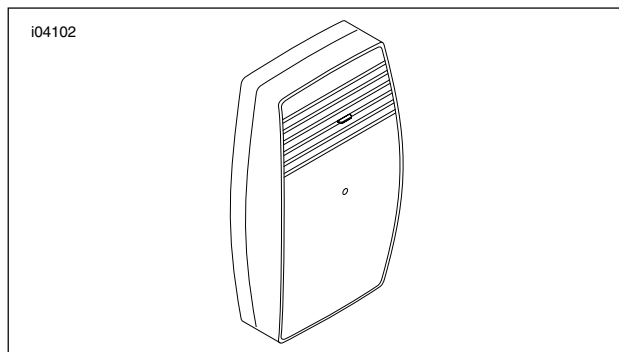

Figure 8-5. Garage Door Opener Receiver, Front View
15. See Figure 8-5. Plug the connector on the Harley-Davidson garage door opener receiver wires into the back of the Harley-Davidson garage door opener receiver.
2. See Figure 8-5. Press and hold the Set button the Harley-Davidson garage door opener receiver. The LED blinks continuously while the Set button is pressed.